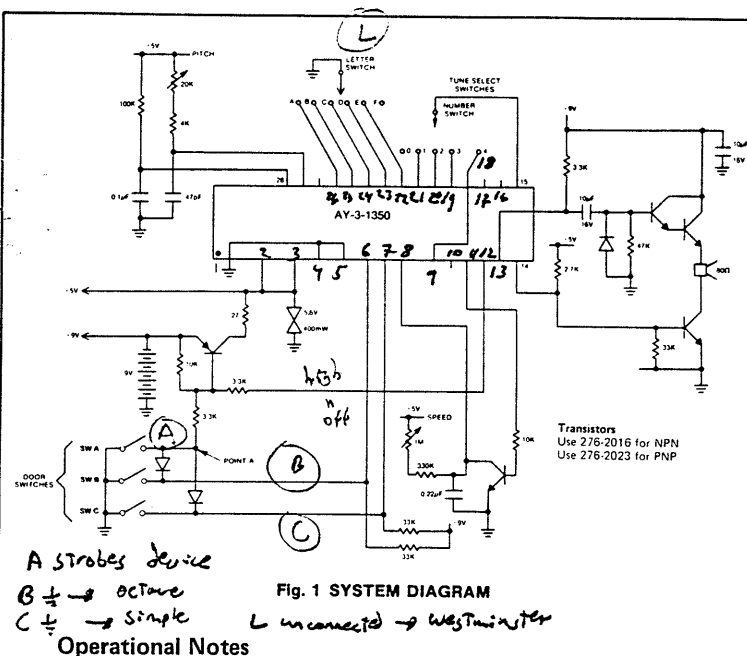

Fig. 1 SYSTEM DIAGRAM
There are many ways to connect the AY-3-1350 depending on the exact application. Figure 1 shows just one implementation of the device in a doorchime. This circuit gives access to all 25 tunes from switch A and one of 5 tunes from switch C as well as the descending active chime from switch B. The tune selected for switch B follows the tunes list according to the setting of the two tune select switches (A-E and 0-4). The tune selected from switch C in Figure 1 is one of the five tunes A0 through E0 depending on the setting of the letter switch. For example, with the letter switch set at E and the number switch set at 4, the tunes available will be:
There is virtually no power consumption in the standby condition (external transistor leakages only). When any door switch is activated the circuit powers up, plays a tune, and then automatically powers down again to conserve the battery, even if the operator keeps his finger on the switch to the end of the tune. He must release it and re-press to play again with the circuit in Figure 1. Activating any of the door switches will pull point A to ground turning on the PNP transistor in the power supply line. This causes +5V to be applied to the AY-3-1350 and the first operation of the chip is to put ON/OFF (pin 12) to logic 0. This maintains the power through the PNP, even after the switch is released. The device can turn off its own power at the end of a tune by raising ON/OFF to logic 1.
Figure 1 shows only a typical one-chip implementation. Further options come from use of different switching and/or from use of the next tune facilities built into the chip. These will now be considered in turn.
In Figure 1 the Switch C Group Select pin (16) is not connected, and one of the five tunes (A0 through E0) will play if switch C is activated. Other number groups can be chosen by connecting the Switch C Group Select pin as follows:
Using the power-up circuit of Figure 1, the AY-3-1350 will have +5V applied and be latched within a few microseconds (dependent upon external components) from any bell-push closing. The device starts to operate when the RESET pin reaches logic 1 (about 10ms with components shown) but in fact the tune select switches are not interrogated until approximately 6ms later. The total is sufficient for most bell-pushes to complete any bounce period and for a firm selection of tunes to be made.
At the end of tune play the circuit of Figure 1 powers down because ON/OFF (pin 12) is raised to a logic 1. Before the power down there is a test for connection between NEXT TUNE (pin 10) then RESTART (pin 17) with TUNESELECT 4 (pin 9). At this time NEXT TUNE (pin 10) then RESTART (pin 17), which are normally at logic 1, output a logic 0. This is looked for at input TUNESELECT 4 (pin 9). If neither is found the power down system is reached as in Figure 1.